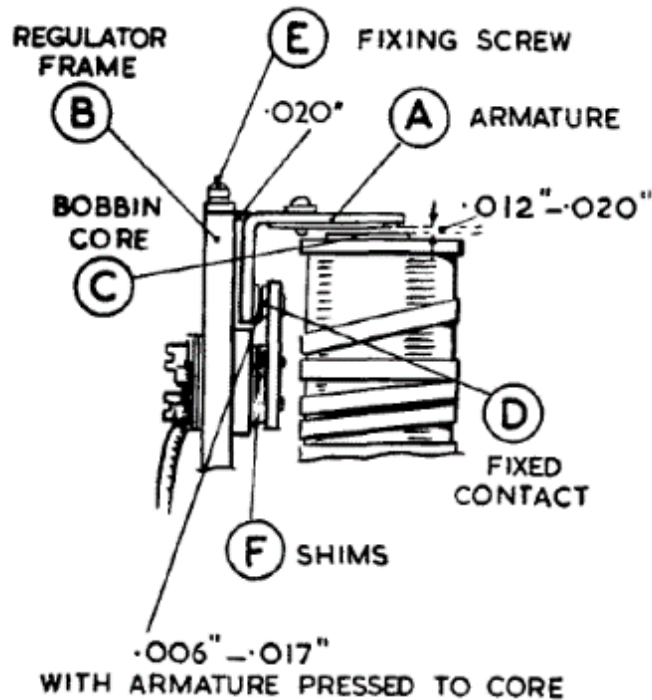

Fig. N.7 Mechanical regulator adjustment
Slacken the two armatures fixing screws (E) (Fig. N.7). Insert a 020 in. (51 mm.) feeler gauge between the back of the armature (A) and the regulator frame.
2. Check the gap between the underside of the arm and the top of the bobbin core. This must be 012 to 020 in. (30 to 51 mm.). If the gap is outside these limits correct by adding or removing shims (F) (Fig. N.7) at the back of the fixed contact (D) or, in later types, by carefully bending the fixed contact bracket.